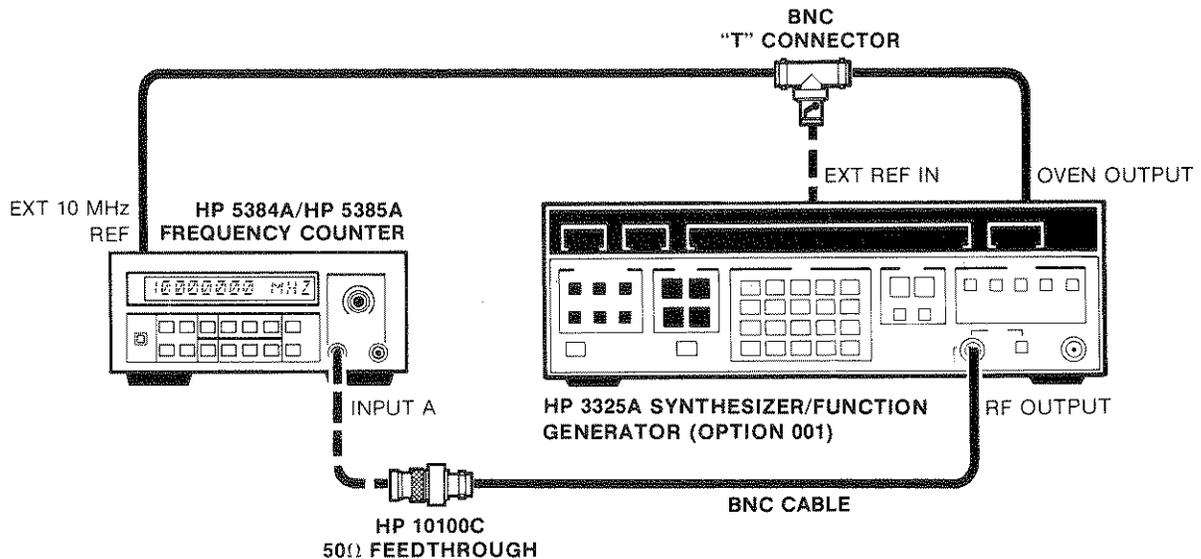

Figure 4-1. Channel A Frequency Response and Sensitivity Test Setup (HP 5384A/HP 5385A)
1. Connect the HP 3325A synthesizer/function generator to HP 5384A/HP 5385A A channel input as shown in Figure 4-1.
1. Use the same set-up shown in Figure 4-1.